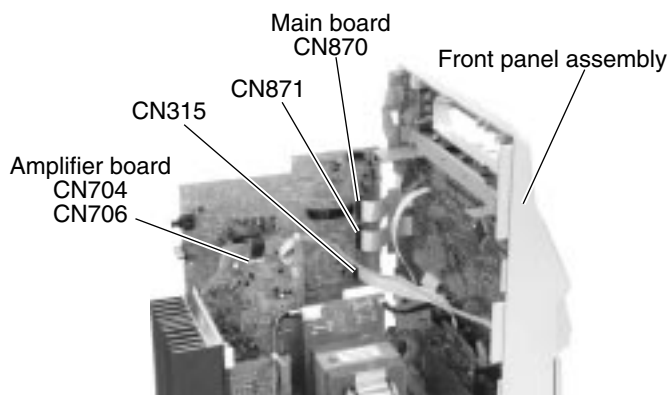

Fig.16
■ Removing the main board (See Fig.16 and 17)